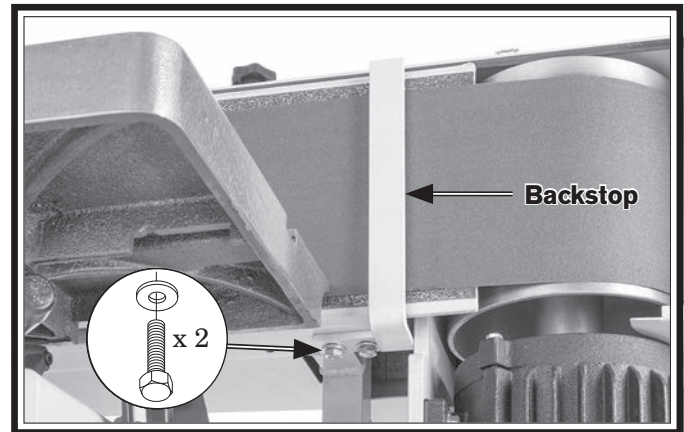

Figure 32. Location of backstop hex bolts.
4. Loosen (2) hex bolts shown in **Figure 32** enough to allow backstop adjustment.